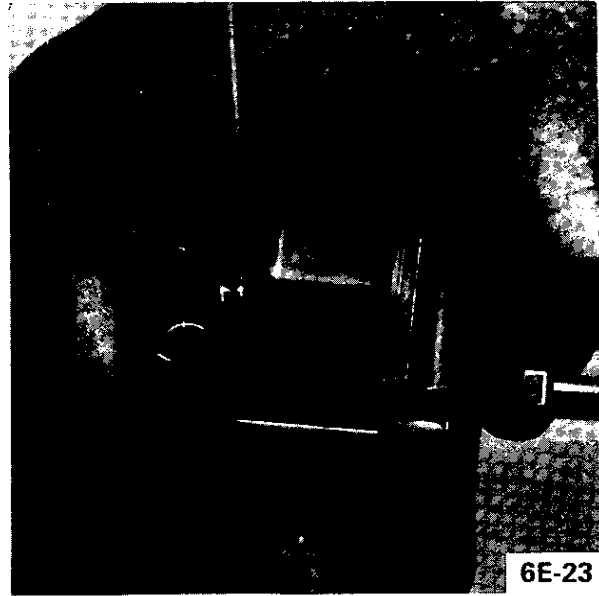

Figure 6E-23 Removing Vacuum Case Reduction Jet
5. Unscrew vacuum diaphragm cover from choke housing. See Figure 6E-22.